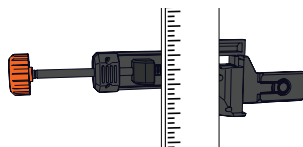

Figure 23
2. Place a grade rod into the opening on the back of the clamp. (*Figure 23*)